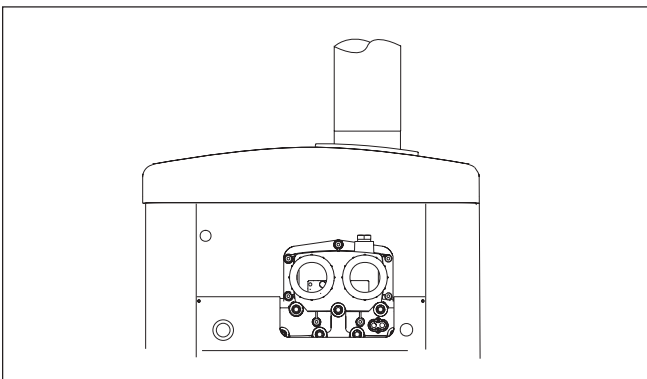

Figure 7. Vent Pipe Installation
3. Install the vent pipe on the indoor vent collar. The collar will accommodate vent piping of nominal 7" or 9" diameter (see Table 4), depending upon the model of your heater (See Figure 7). See vent installation section for important information on selecting proper pipe size.
In general, these requirements specify that the room in which a heater is installed should be provided with two permanent air supply openings; one within 12 inches (305mm) of the ceiling, the other within 12 inches (305mm) of the floor. All indoor installations must have openings to outside air for combustion, ventilation, and dilution of flue gases from inside the building (see Figure 7 and Table 3). Waterpik Technologies does not recommend indoor installations that do not provide combustion air from outside the building.
The vent collar outlet is to be connected to an unobstructed vent pipe of the same diameter, terminating outside the building. The vent must terminate at least two (2) feet (0.6 m) above the highest point of the roof or other object that is within ten (10) feet (3.0 m) of the vent termination. The vent pipe must have a listed vent cap which allows a full equivalent opening for flue products (see Figure 7).